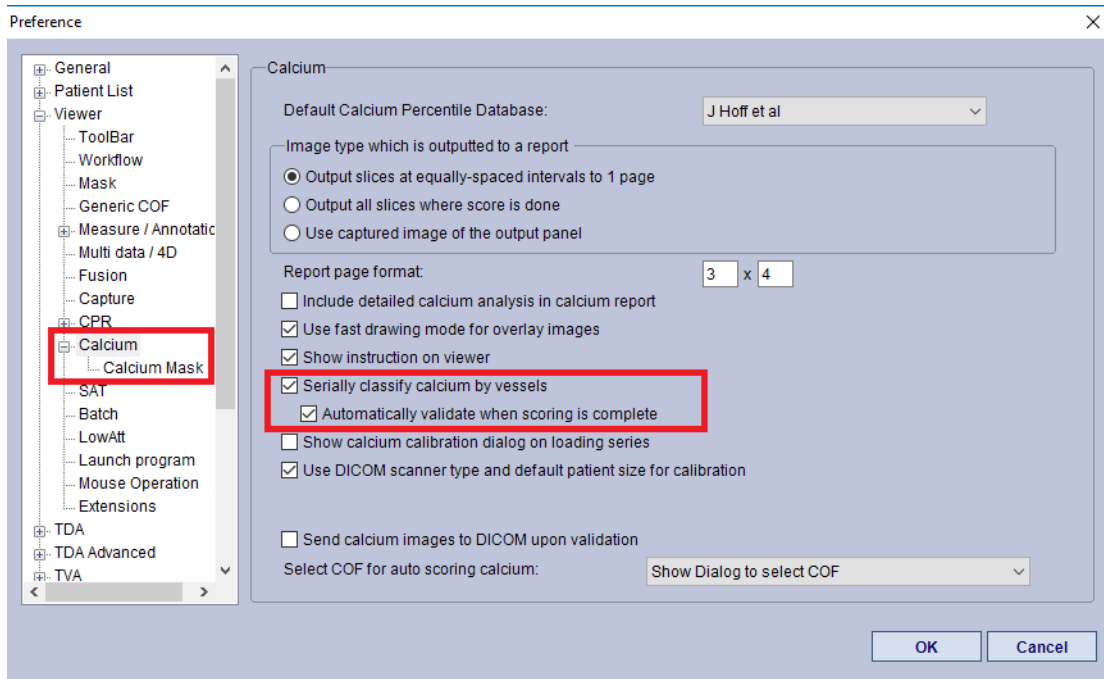

Figure 11-20 Preference>Calcium Settings
- **Automatic Validation (Figure 11-20, #1)**